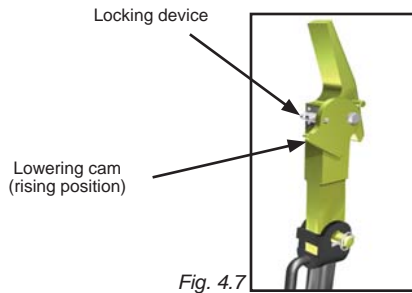

Fig. 4.7
- 2- Lock the lowering cam on both the cylinder hook and the secondary hook by sliding each locking device latch toward the cam and locking it (fig. 4.7).